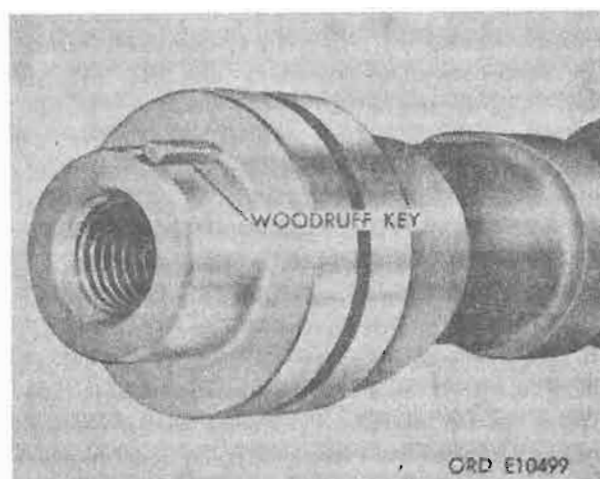

Figure 4-172. Woodruff key.
b. *Remove Woodruff Key.* Remove key from slot on front end of camshaft by tapping end of key away from camshaft with a soft rod or suitable tool. (fig. 4-172).